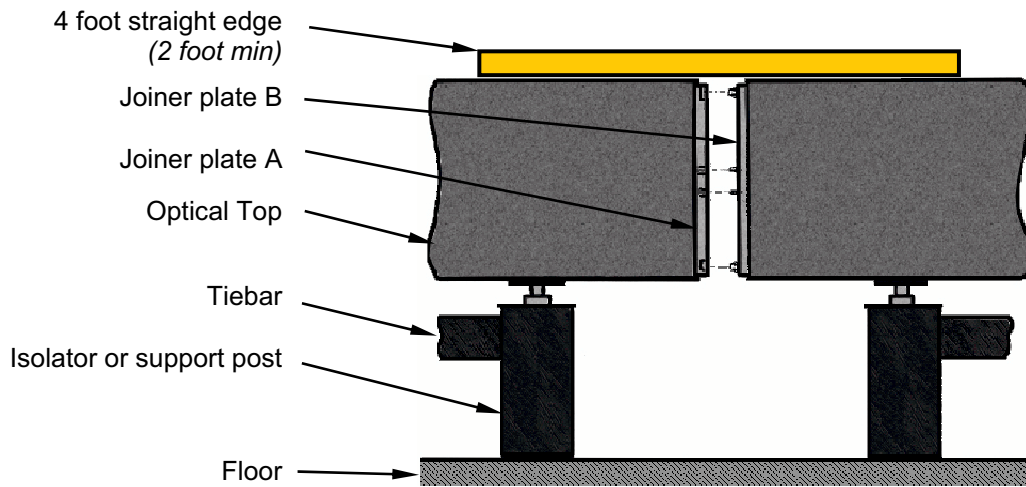

Figure 3 Joiner plates
- Step 8** Lift and move the second top and position it just above the isolators/posts as shown in figure 3 below using the Gantry.
This can be facilitated by placing a straight edge across the two top surfaces as shown in figure 3 below.
**Step 12** Slowly ratchet the two tops together while ensuring that the tops remain co-planar and level with respect to one another as referenced in figure 3 above.